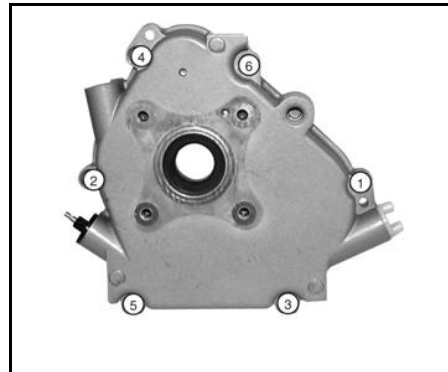

Figure 12
6. Install cover or sump screws in order shown in Figure 12. Torque to values listed in Section 12 - Engine Specifications.